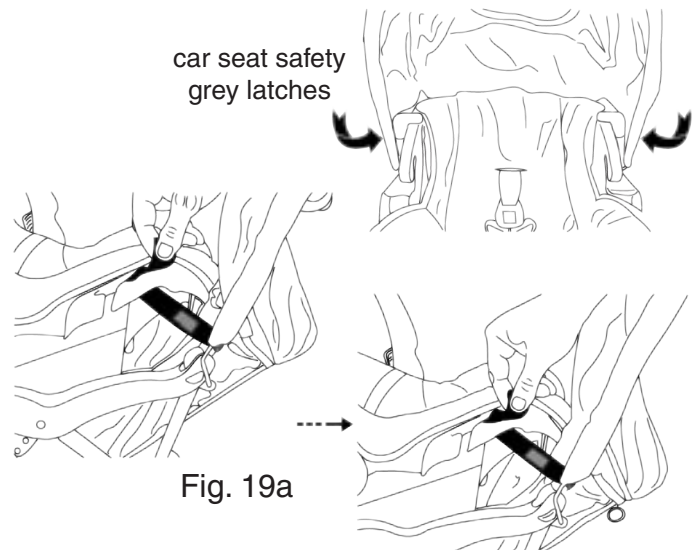

Fig. 19a
18. Final step to secure the footrest side of car seat onto the stroller, use the straps with velcro to secure seat onto stroller. (Fig 19a). Check that car seat is securely attached by pulling up on the car seat. To remove, undo latches and unlock car seat from childtray.